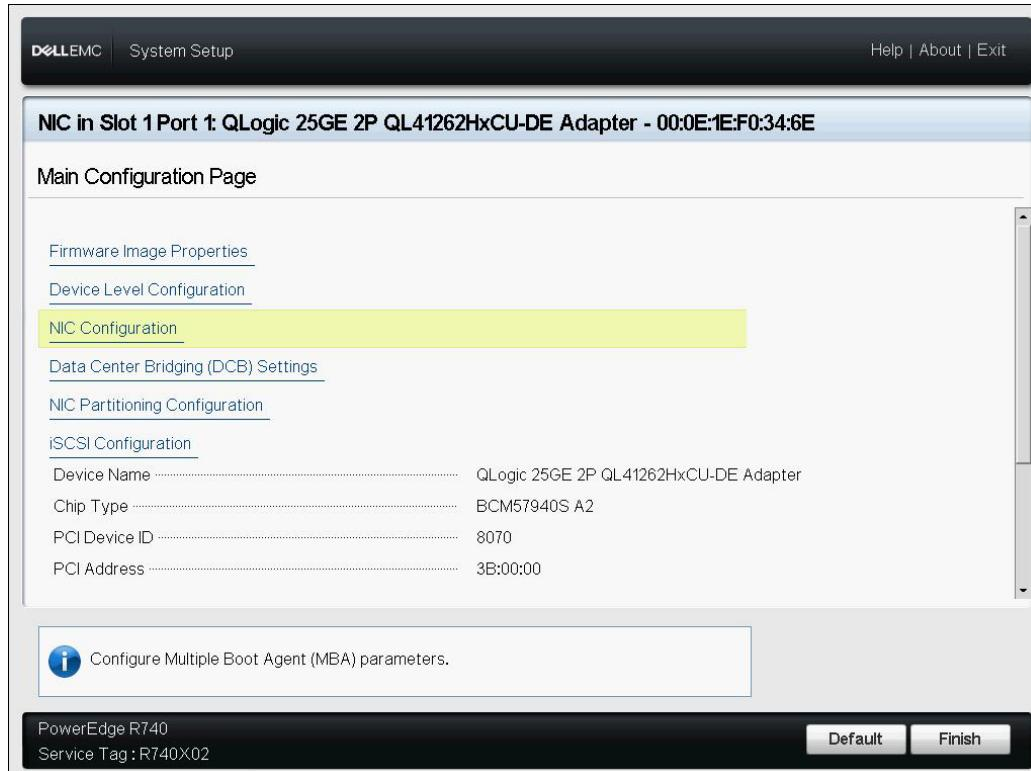

Figure 9-4. Selecting NIC Configuration
4. On the Main Configuration Page, select **NIC Configuration** (Figure 9-4), and then press ENTER.